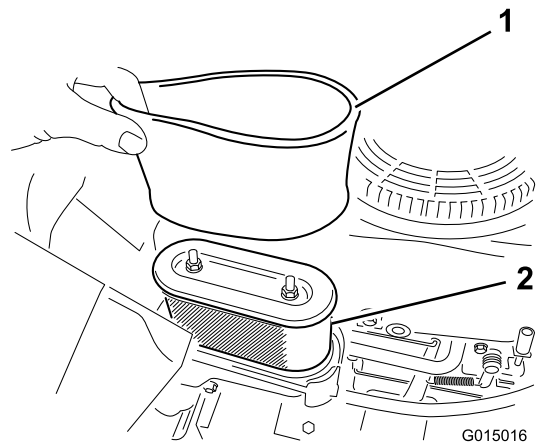

Figure 33
5. Carefully remove the foam and paper filter elements from the air-cleaner housing (Figure 33).
Note: If it is very dirty, replace the paper element (Figure 33).
- 1. Install the foam filter onto the paper filter (Figure 33).